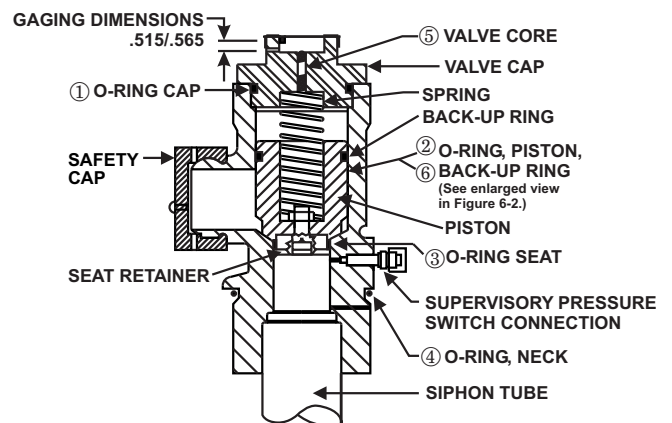

Figure 6-1. Valve Assembly (1½", 2" and 2½")
Refer to Figures 6-1 and 6-2 and Table 6-1.
**After reinstalling a Schraeder core, the distance from the top of the core pin to the control head seating surface must fall between the dimensions of 0.515 in. to 0.565 in. (13 mm to 14 mm) when in the “shut” or non-actuated position (see Figure 6-1).**
**Note:** The items refer to Figure 6-1.